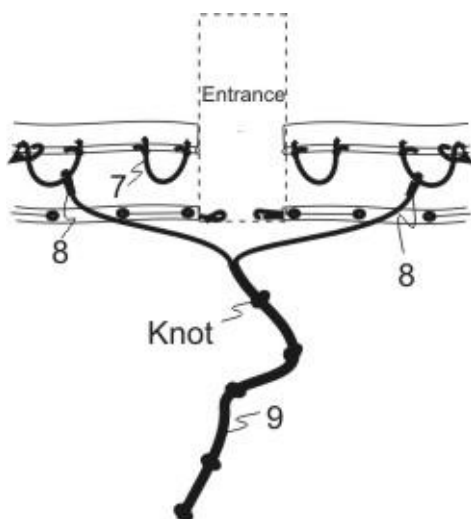

fig. 6.1
- Push the first arch into the underlying socket. When a swimming pool is bigger than Ø 4.0m, push first the arch section with the connecting aluminium tube (23) (with loop) into the socket.
- Pull out the connecting rope (24) through the opening in the socket and connect it to the connecting aluminium tube (23). The connecting rope (24) must be under easy tension.
Step 6: Pulling rope (fig. 6.1/6.2)
Pulling rope (18) (fig. 6.1)
Put together the pulling rope (18) according to fig. 6.1. Knots are to be made in a distance of an arm length.